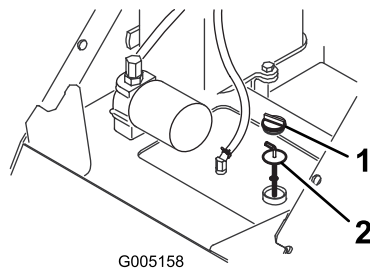

Figure 8
4. Clean the area around the filler neck of the hydraulic tank (Figure 8).
5. Remove the cap from the filler neck and check the fluid level on the dipstick (Figure 8).